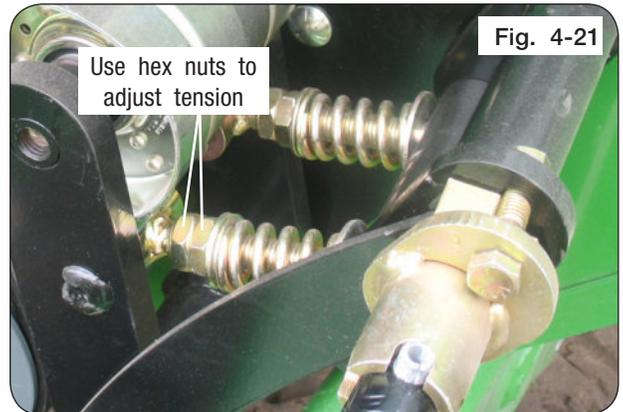

Fig. 4-21
5. Belt tension is adjusted with hex nuts below the spring. All belt tension **MUST** be released from linkage. Loosen outer hex nut and adjust inner nut to establish a $3\frac{1}{16}$ " pre-load dimension between the heavy washers. Tighten the outer hex nut against inner nut to lock position. (Fig. 4-21)